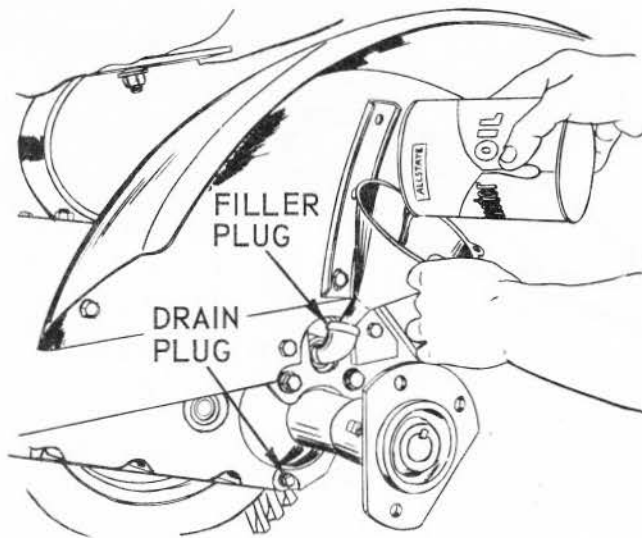

FIG. 14
1. Check oil in transaxle every 50 hours of operation. To check oil level, remove filler plug (Fig. 14), from transaxle. Oil level should be even with this plug.